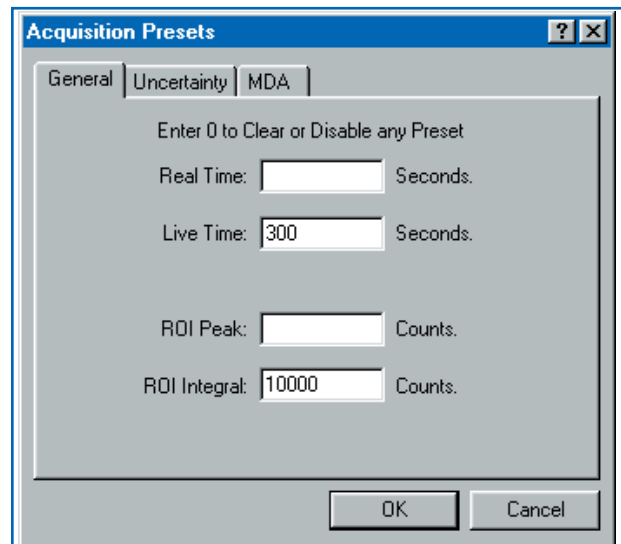

Figure 1. Counting Time and Region of Interest Preset.
2. Set the preset "Live" count time to a value such as 300 seconds as shown in Fig. 1. The value should be chosen such that the count time is sufficient enough to give good counting statistics (e.g., < 2%) for all peaks of interest in the source. *Note: If an ORTEC MCB with the Uncertainty or Integral ROI Area presets is available, it is recommended to select an ROI around the 1332 keV peak from Co-60 and enter "2.00" for uncertainty percent or "10,000" for ROI integral counts as shown in Figures 1 and 2.*